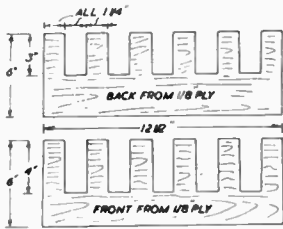
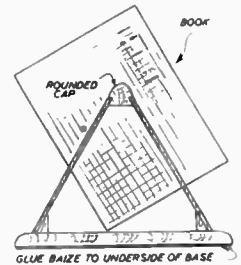

Fig. 1
Fig. 7
Books fit in the stand as shown in the final drawing—Fig. 7. The lower slots are to the front, and if each book is placed in position with the backs facing outwards, an attractive display is assured, with all the titles easily read. The original dimensions given in Fig. 1 can be varied, if required, for closer spacing of the books in order to get more in a single stand. The slots can be widened
It is an excellent idea, for example, to 'tailor make' a stand to take a series of volumes—four, five or six books, say, of the same size and subject. Fig. 7 will act as a guide to proportioning such a stand to any given size of book. (324)